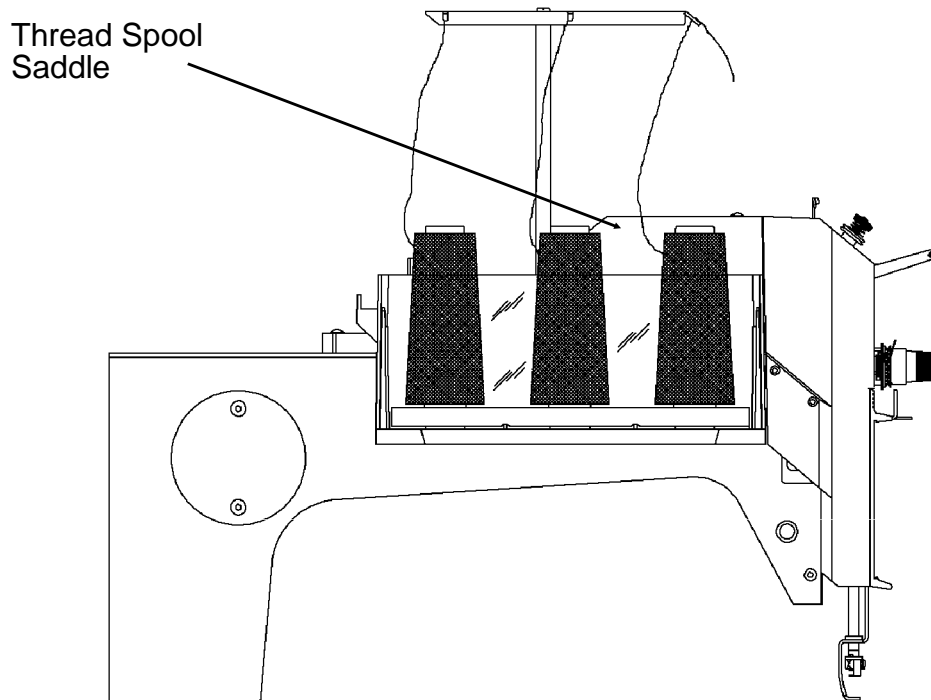

Figure 1
2. Remove the Thread Spool Saddle (Figure 1).